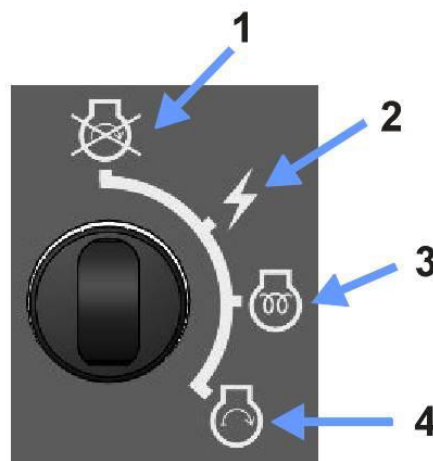

Figure 4.40 - Power Only Position
4. Turn the key clockwise to the Power-only position see Figure 4.40 Item 2.